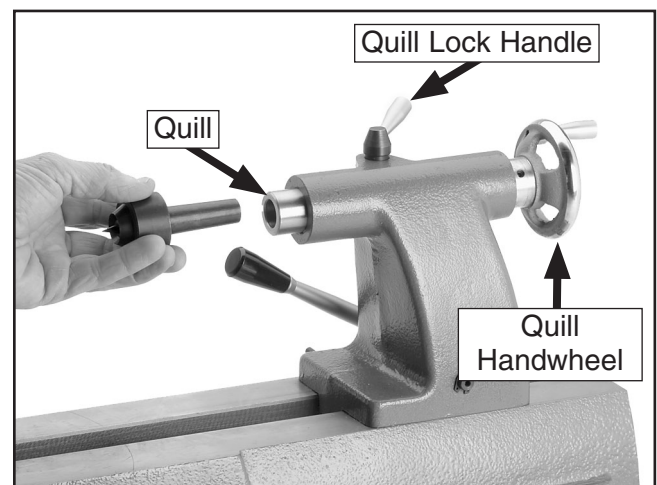

Figure 14. Installing live center in tailstock.
3. Insert the live center, as shown in **Figure 14**, and push firmly.